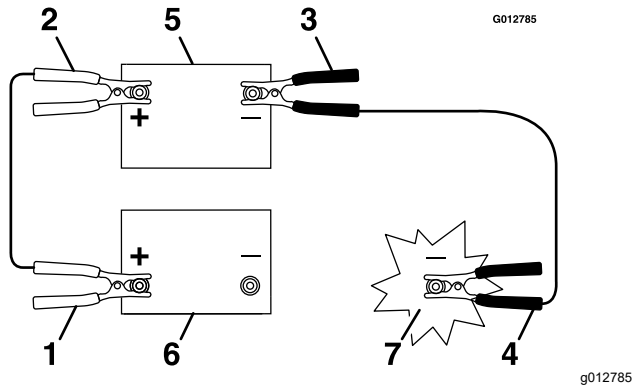

Figure 53
3. Connect the positive (+) cable to the positive (+) terminal of the discharged battery that is wired to the starter or solenoid (Figure 53).